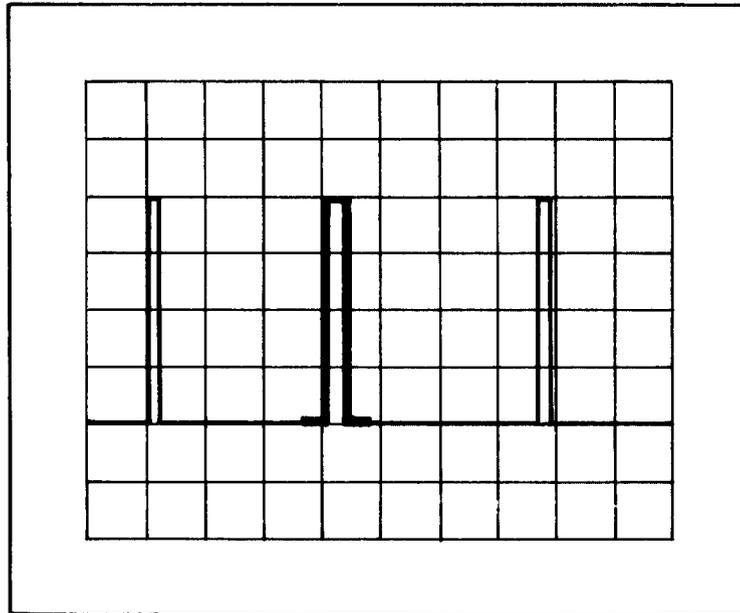

FIGURE 7. EQUIPMENT CALIBRATION WAVEFORM
9. Adjust oscilloscope control Delay for an intensified area over the center pulse as shown in Figure 7. If intensified area is not visible, decrease intensity of display.